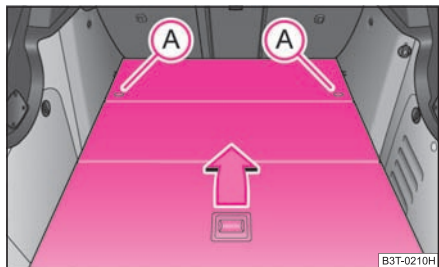

Fig. 80 Luggage compartment: remove raised floor
- Unlock the floor by turning the safety eyes (A) to the left by approx. 90° → fig. 80.